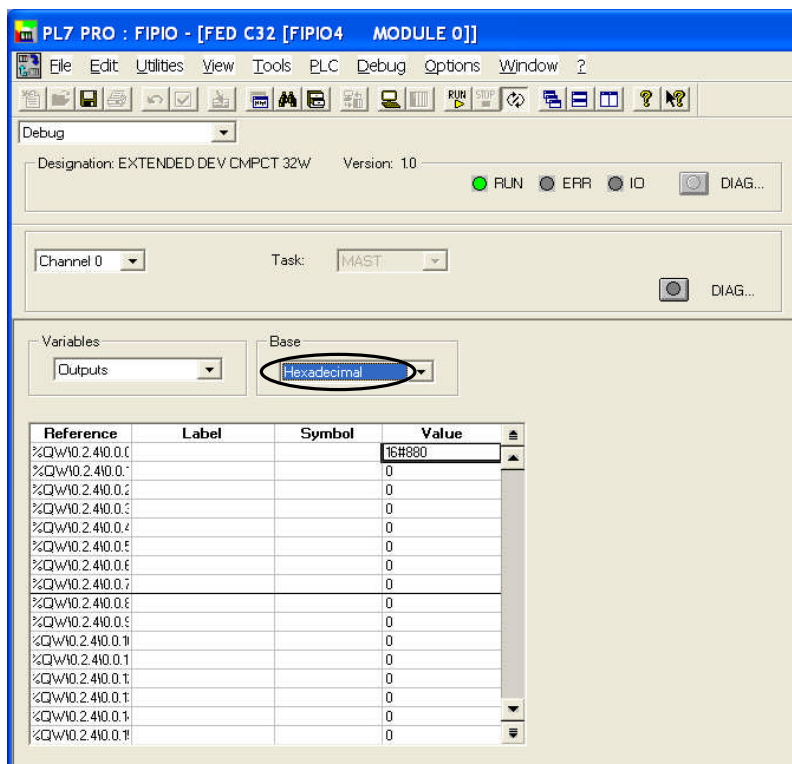

Figure 21 Monitoring the output data.
- The Output Data from the fieldbus can be seen at byte 200 and 201 ❶ in the Out Area. The value is corresponding to the value seen in Figure 21 Monitoring the output data.
The window above shows the Input data from the PLC. The data value is corresponding to the data value seen in Figure 21 Monitoring the output data.